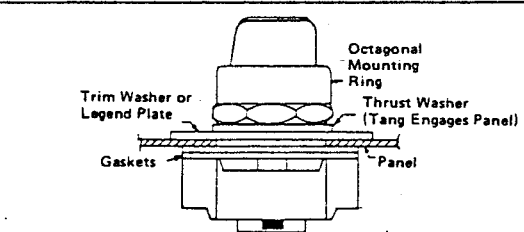

Figure 4
- Note: For illustration of mounted assembly, see Figure 4.
1. Before installing potentiometer, bend the three terminals 80° - 90° and remove the nut and lock washer from bushing. (See Figure 4.)